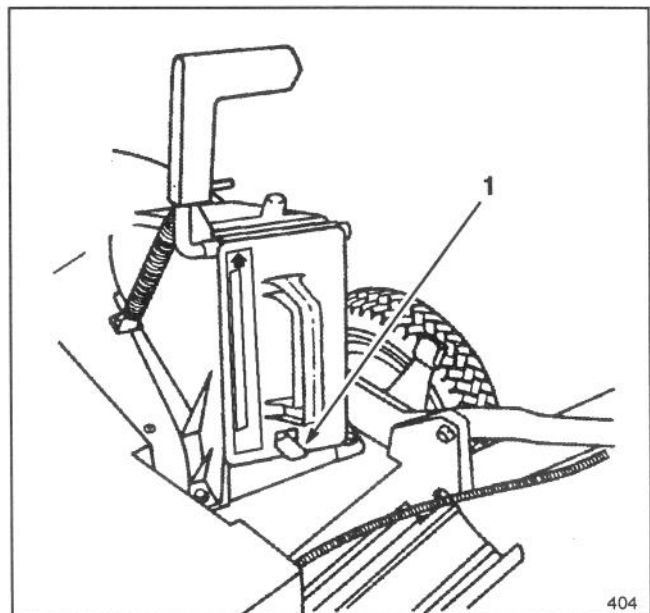

Figure 3
3. Push the plug all the way in until the spring clip on the bottom of the plug clicks into place, locking the plug securely into the discharge tunnel (Fig. 3). Release discharge door handle to lock top of plug.